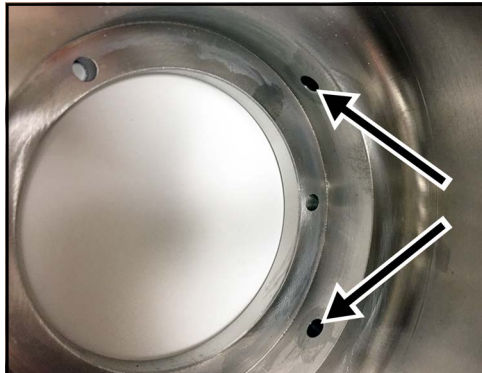

Figure 78 - View of flush holes on inside of pump body
10. The flush holes in the body are located toward the outside of the body (not toward the middle) as shown in Figure 78.